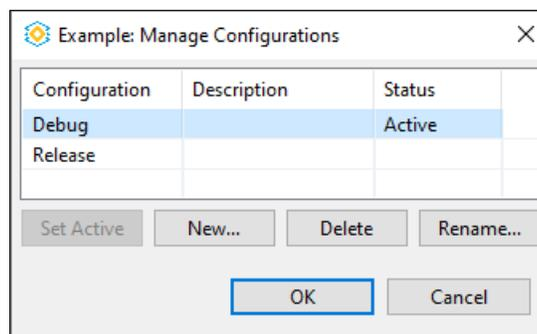

Figure 3.28. Manage Configurations Dialog
- b. The **Manage Configurations** dialog opens (Figure 3.28) for choosing active configuration. By default, a **Debug** configuration creates executables containing additional debug information that lets the debugger make direct associations between the source code and the binary files generated from the original source. A **Release** configuration provides the tools with options setting to create an application with the best performance.